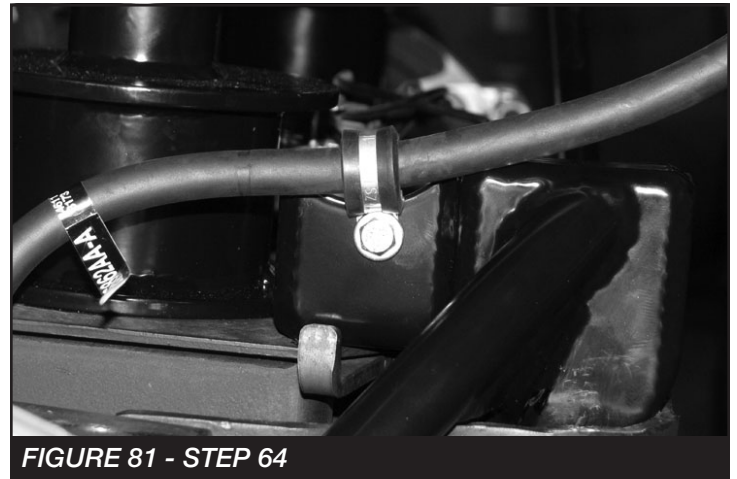

FIGURE 81 - STEP 64
64. Locate the supplied 1/4"-20 x 1" bolt, nut, washers and FTCLAMP-LB10 rubber cushioned clamp and install on the rear axle breather tube, mounting it to the hole provided on the new track bar bracket. Torque to 14 ft-lbs. **SEE FIGURE 81**